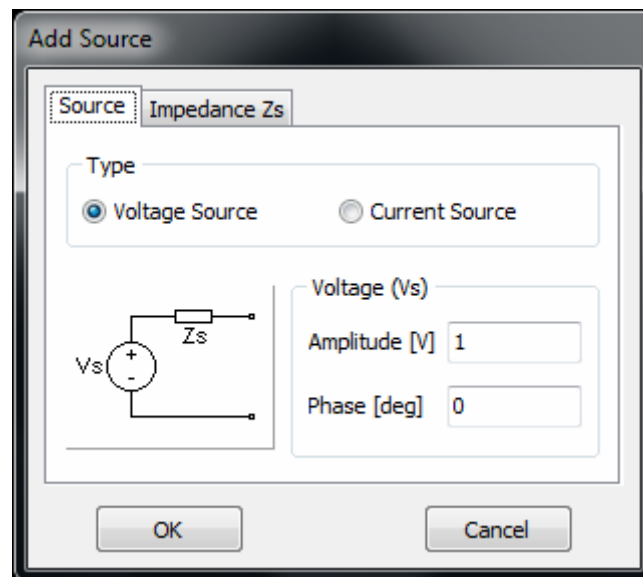

Fig. 8.6: Add Source dialog box.
Displays the Add Source dialog box for adding a source to the selected segment in the wire, Fig. 8.6. This dialog box allows us choosing the type of source, its amplitude, phase and internal impedance.
4. Press the Add Source button to display the Add Source dialog box, Fig. 8.6.